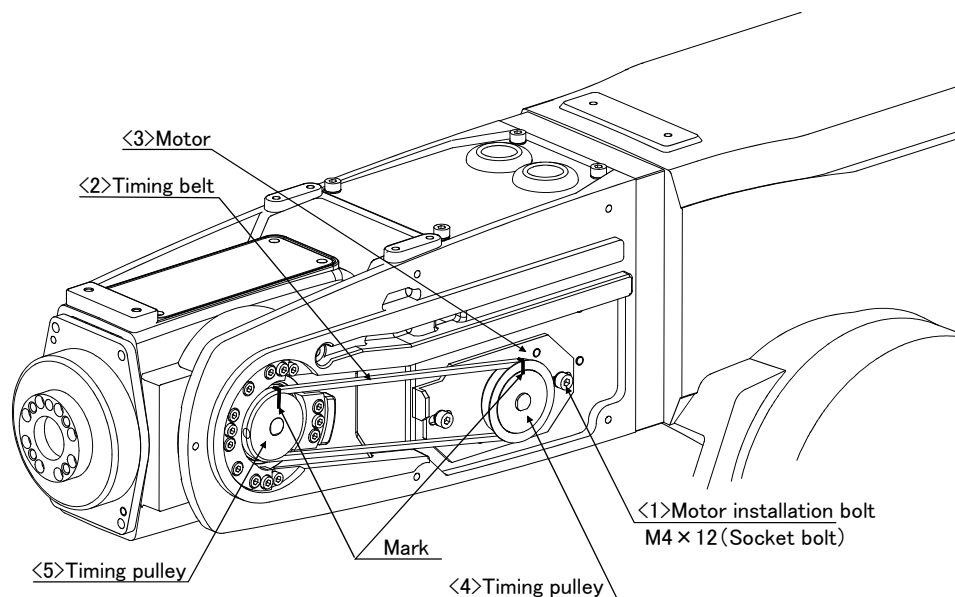

Fig.5-4 : Inspection, maintenance and replacement of J5-axis timing belt
- 3) Move the motor <3> in the directions of the arrows shown in Fig. 5-4, using the tension adjustment screw while checking the tension of the timing belt <2>. Lightly pushing the center of the belt with your finger (approximately 1.3 N), move the motor to the position where the belt flexes about 2.3 mm.
- 1) Fig. 5-4 shows the methods for inspecting, adjusting and replacing the timing belt.
- 5) Make marks on the timing belt <2> and timing pulleys <4> and <5> with a felt-tip pen as shown in Fig. 5-4 so that the engagement of the timing belt <2> and timing pulleys <4> and <5> does not deviate.
- 9) Refer to steps "3)" to "6)" in "■ Adjusting the J5 axis timing belt" and "(3) Timing belt tension" to adjust the tension.